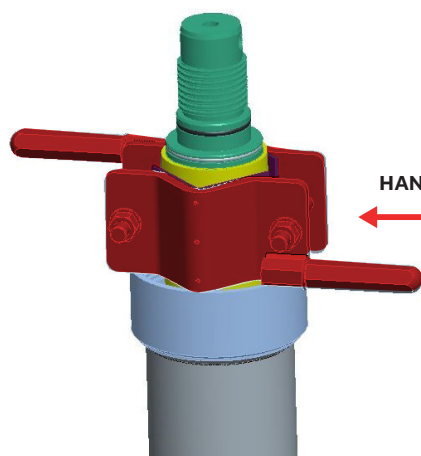

Figure 3
6. Assemble the hanger clamp for rod tightening, then remove the lifting device and the longer SHCS screw (Fig. 3).
4. Remove the transport hook and the seal-bearing head; fix the transport hook to the piston rod by means of an M30 (or M60) head screw. (Fig 3)